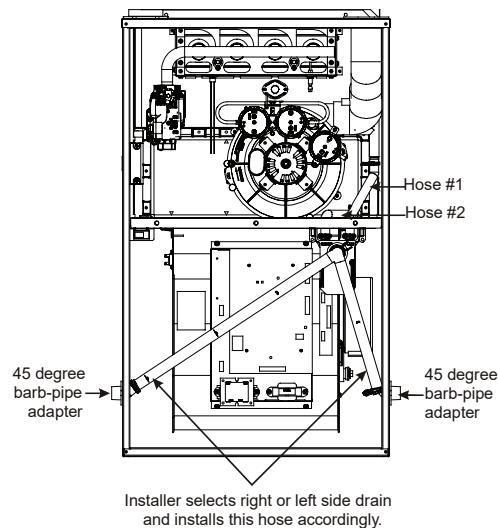

FIGURE 25
1. Locate and Install the 45° pipe / hose drain coupling from the outside of the cabinet (barbed end goes in the cabinet) through hole in the right side of the cabinet and secure with two field supplied #8 self-tapping screws (see Figure 25).
1. Install the 45 degree pipe / hose drain coupling from the outside of the cabinet (barbed end goes in the cabinet) through the hole in the left side of the cabinet and secure with two field supplied #8 self-tapping screws (see Figure 25).